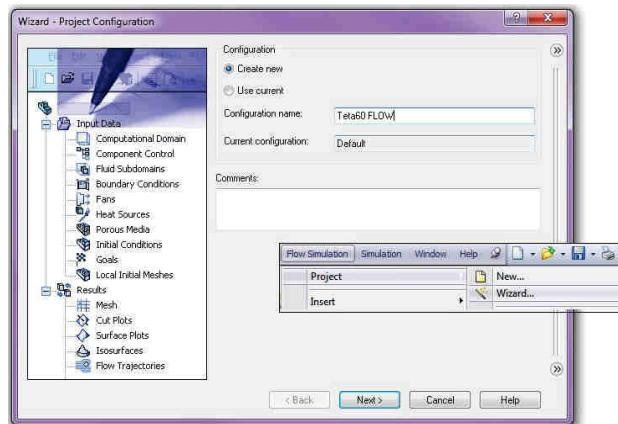

Fig. 15.5
- Click **Flow Simulation** → **Project** → **Wizard**, pentru parcurgerea succesivă a tuturor pașilor standard necesari la definirea unui proiect, fig. 15.5.
- Click **Flow Simulation** → **Project** → **Wizard**. The project wizard will guide the user through the definition of a new Flow Simulation project, fig. 15.5.